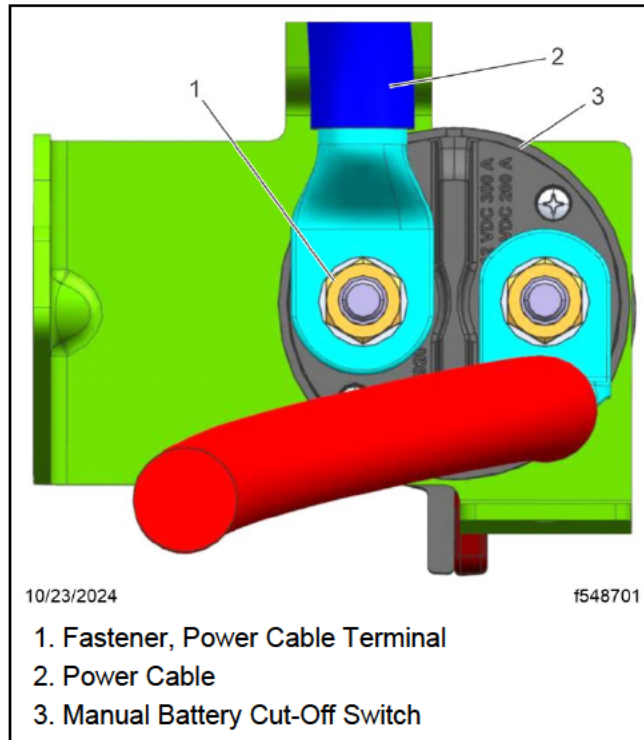

Fig. 3, Disconnecting the Power Cable from the Manual Battery Cut-Off Switch
11. Remove the fastener and disconnect the power cable (A06-36356-056) from the manual battery cut-off switch. See Fig. 3.